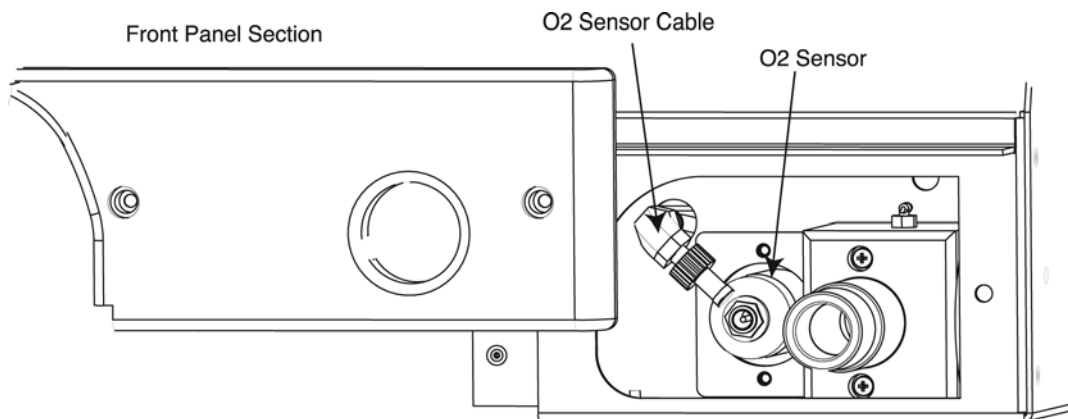

Figure 7-5. Replacing the Oxygen Sensor
3. Locate the Sensor Cable and turn the twist collar counter clockwise to remove the cable from the sensor (as shown in Figure 7-5).